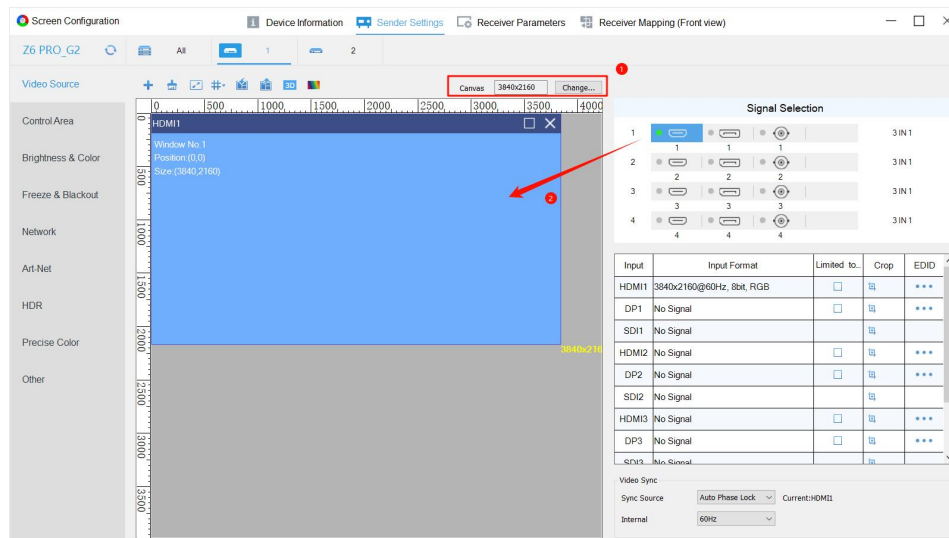

Fig 2.2.1 Video source
Step 3: Select the signal source to be displayed, then drag it to the canvas for normal display, as shown in Fig 2.2.1.